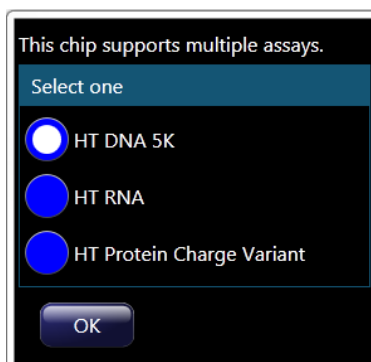
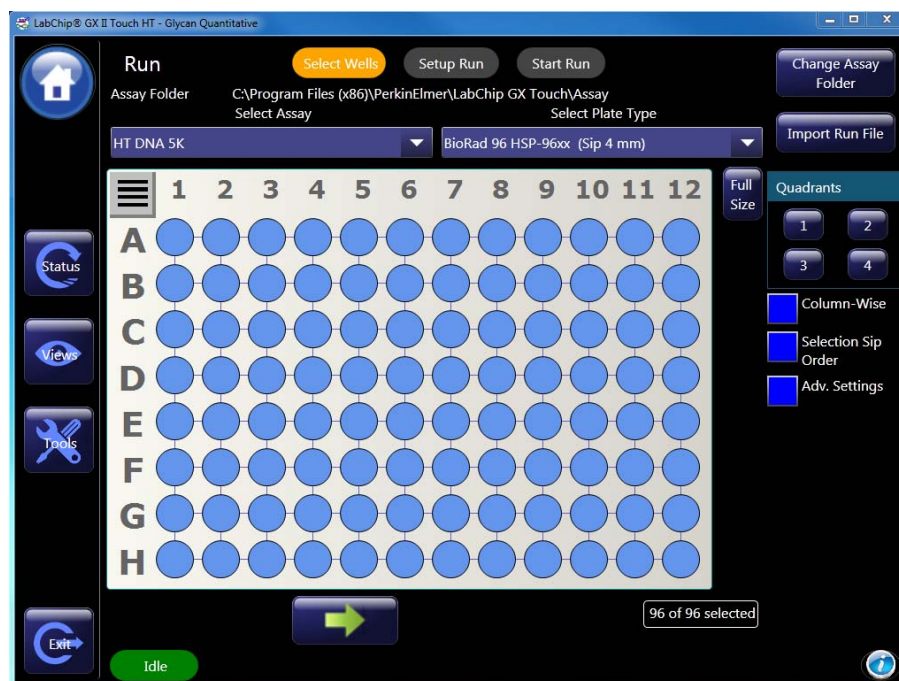

Figure 7. Assay Choice menu.
Figure 9. Selecting wells.
- 6 The *Assay Choice* window opens (Figure 7). Touch the desired assay and then touch *OK*.
- 2 Select the appropriate assay type (see Figure 7), plate name, well pattern, and whether to read wells in columns or rows. Select number of times each well is sampled under *Adv. Settings* (Figure 9). Touch the *green arrow* button.